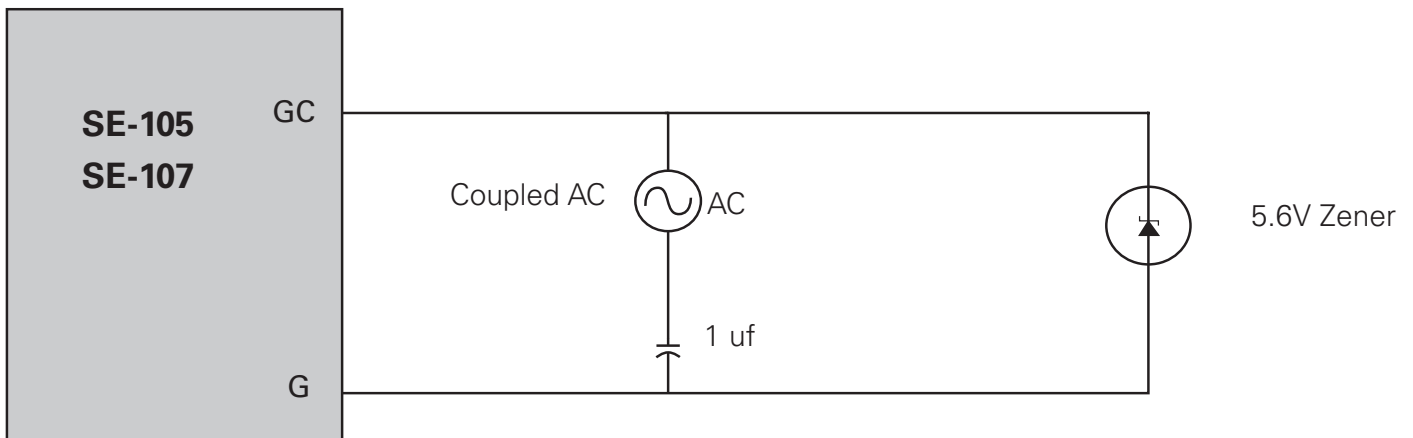

Figure 2
The equivalent circuit in Figure 2 is the circuit that applies when a variable frequency drive (VFD) is used.
For the circuit of Figure 2, a noise current of 100 mA will cause the SE-105/107 to trip. At the point of trip, the GC to G voltage at the SE-105/107 end is 3 Vdc.
- Since the coupled ac of Figure 2 is a function of carrier frequency, some improvement may be gained by reducing the carrier frequency to a minimum value.
- Input reactor filtering reduces noise coupled back to the source which will improve performance on other neighbouring GC circuits. Although a drive may be connected to a short motor cable, the VFD noise is reflected back on the power cables and will flow in the capacitance of other connected trips. If these cables are long, the condition in Figure 2 may be present and can cause nuisance trips.